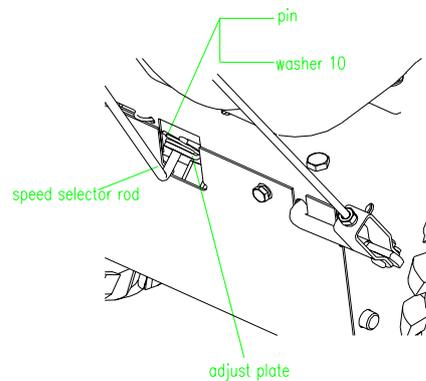
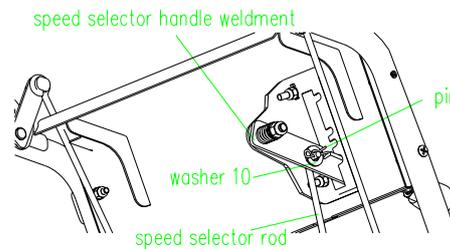

FIG 8
FIG 9
**2.5.2** Add washer 10 on the selector rod, and secure it with a pin XSZ56-1-17. (FIG 8, FIG 9)